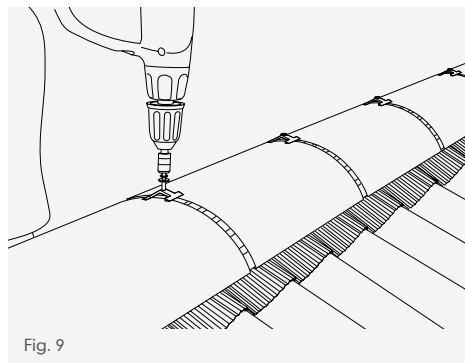

Fig. 9
- 9 Push ridge tile firmly into position and secure ridge union assembly to ridge batten by fixing screw through hole in union clamp using a pozidrive No. 2 screw bit (Fig. 9).